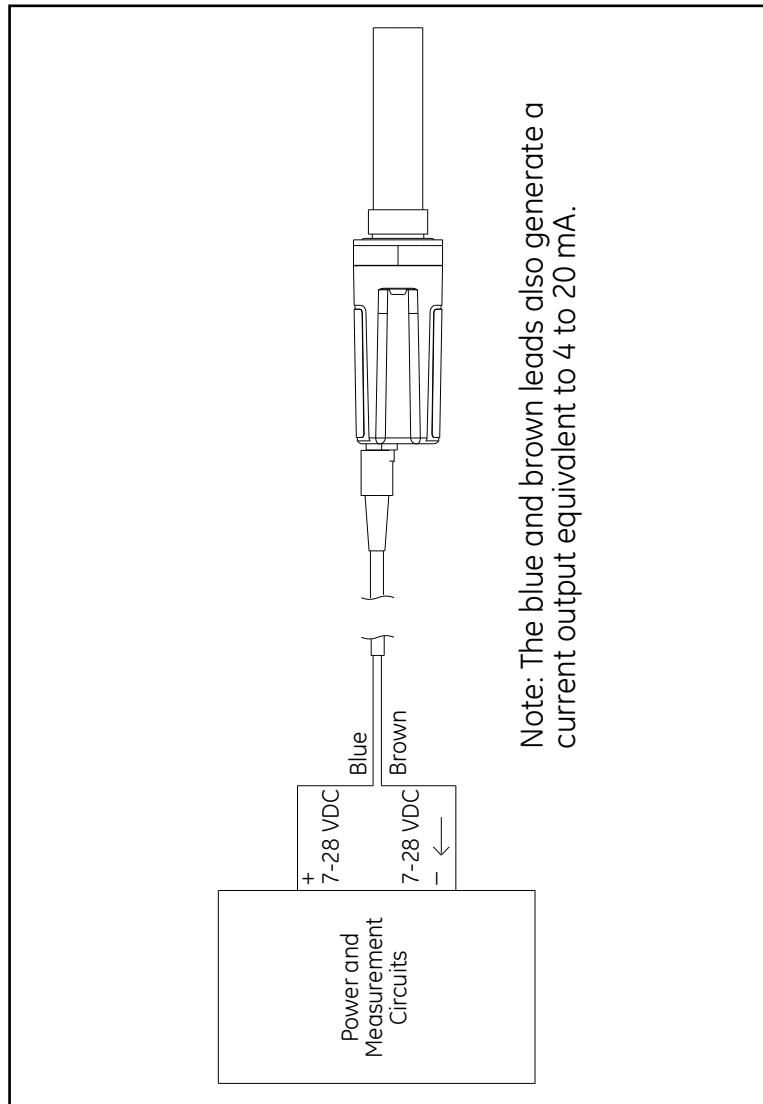

Figure 2: Wiring Connections
- Using the flying leads at the other end of the transmitter cable, connect the transmitter to your power supply and data acquisition system (DAS), as shown in *Figure 2 on page 4*. Refer to *Table 1* below for a description of the leads on the factory-supplied cable.